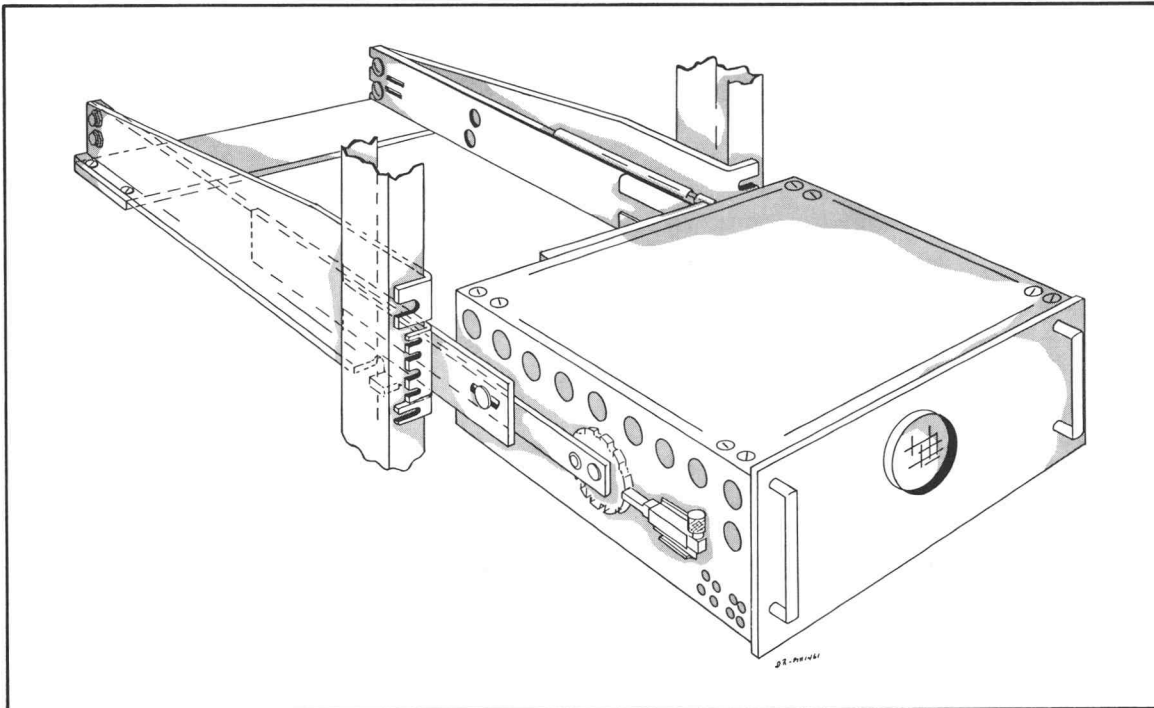

Fig. 2-3. The completed installation. It may be necessary to loosen the bolts and allow the slide mechanism to adjust to the weight of the instrument.
3. Using Figure 2-3 as a guide, assemble the cradle and Chassis-Trak on the corresponding rails of the relay rack, allowing 2 inches between the center of the top mounting screw and the position you selected for the top of the RM16 front panel.
5. Place the Type RM16 in the Chassis-Trak slides as shown in Figure 2-3. Operate the slide mechanism several times with the instrument installed. If the operation of the slides is not smooth, loosen the mounting bolts and allow the slide mechanism to adjust to the weight of the instrument. Be sure to retighten all bolts after the mounting has been adjusted.